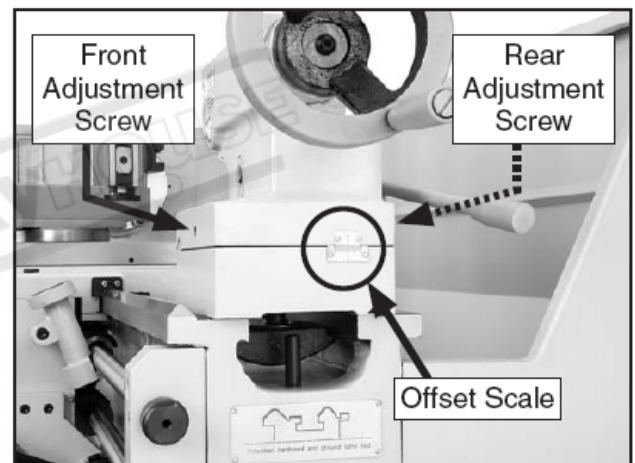

Figure 27
2. using a hex wrench loosen one of the front or rear adjustment screws shown in **Figure 27**.